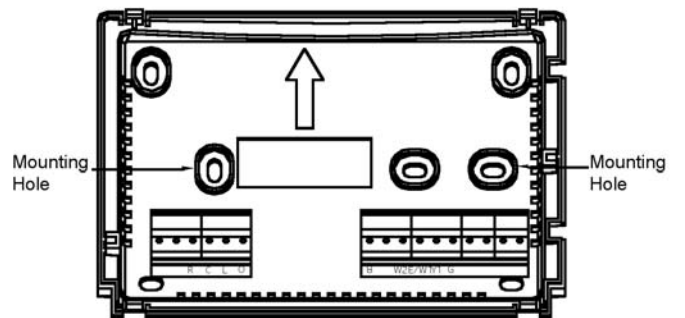

Figure 2. Thermostat base
2. Connect wires beneath terminal screws on base using appropriate wiring schematic (see Figures. 2 through 6).